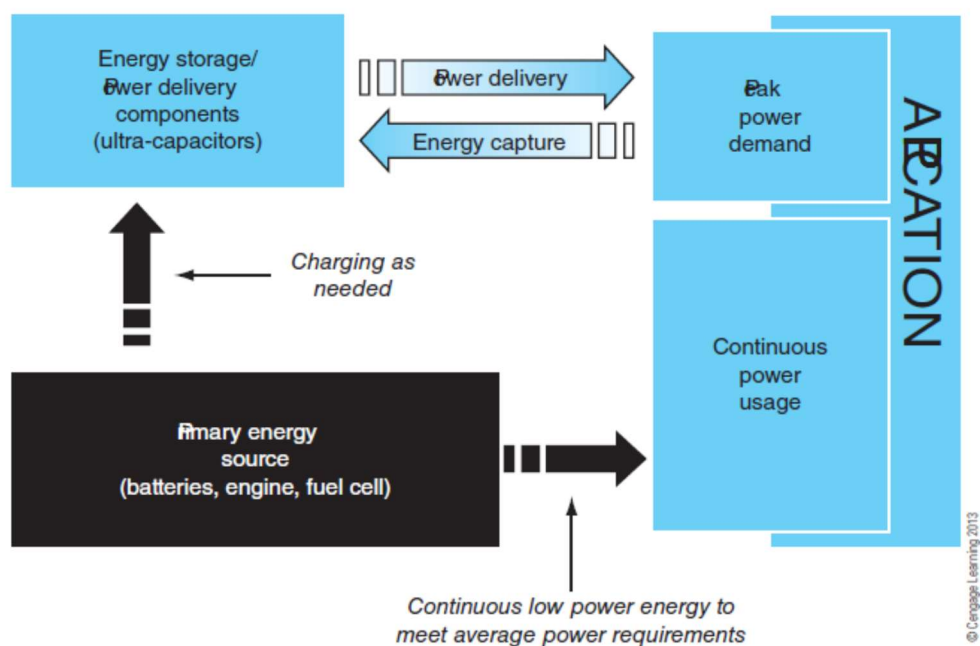

Figure 4-37 A diagram showing how an ultra-capacitor fits into the powertrain of a hybrid vehicle.
- The capacitors can store energy captured during deceleration and braking and can release that energy to the traction motor while it is assisting the engine during acceleration (Figure 4-37).